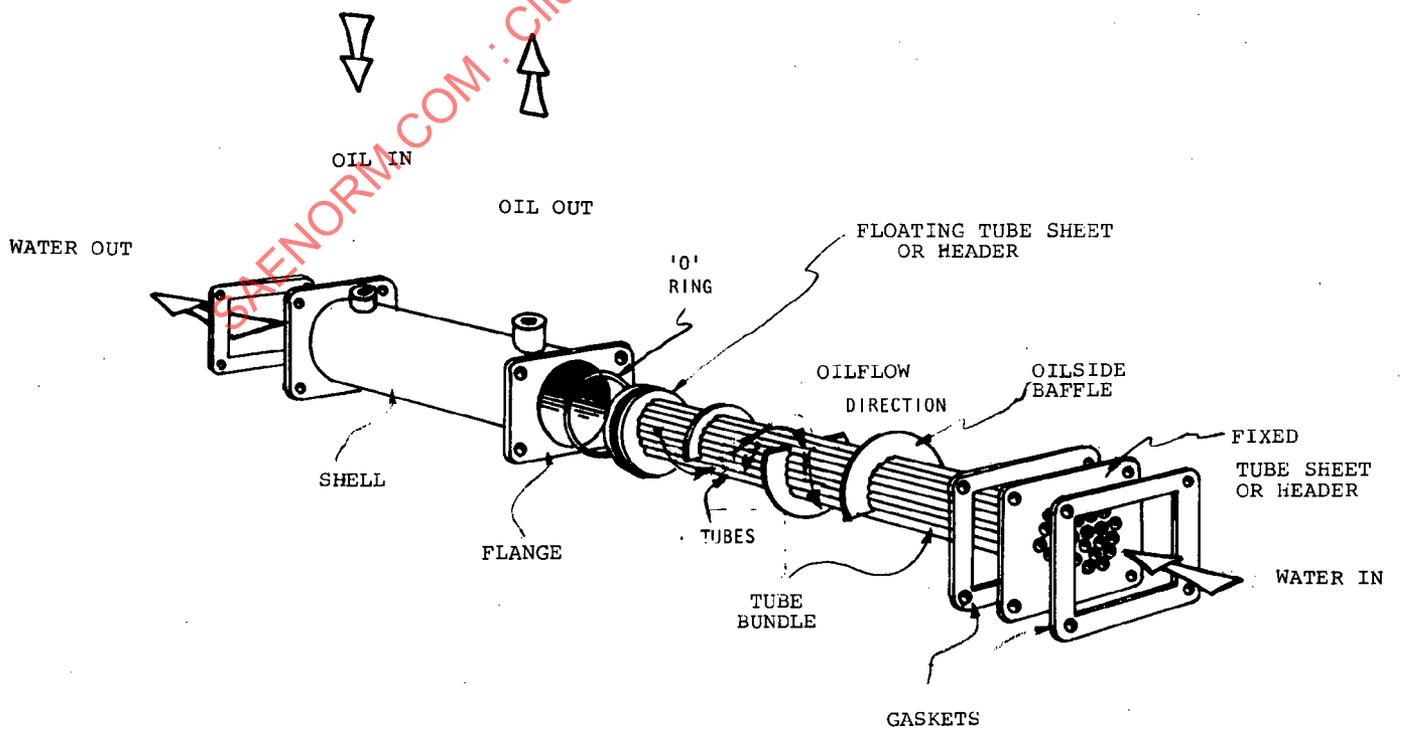

FIG. 2—SHELL AND TUBE REMOVABLE BUNDLE OIL TO WATER COOLER
4.1 *Baffle*—A partition which directs flow of fluids across the core. See Fig. 2 in Nomenclature.
4.2 *Baffle Cut*—Expresses percentage of area removed from baffle. See Fig. 2 in Nomenclature.
4.13 *Header*—This term has a dual meaning. It is sometimes used synonymously with tube sheet or tank. See Figs. 2, 3, and 6 in Nomenclature.
Note: Normally used to provide for disassembly and/or thermal expansion. See Fig. 2 in Nomenclature.
4.26 *Tube Sheet*—See Figs. 2 and 3 in Nomenclature.